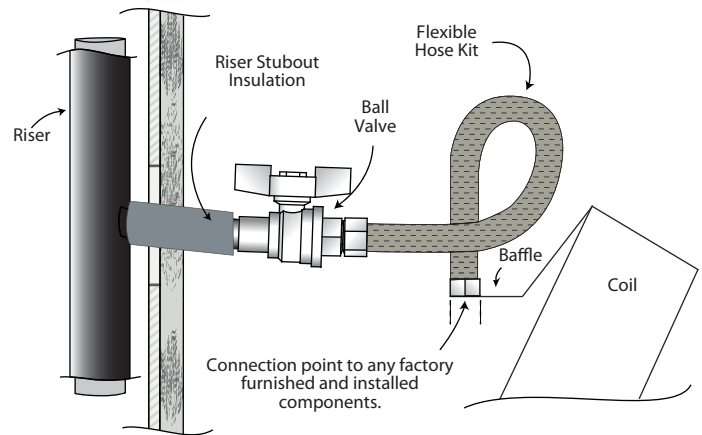

Figure 7
4. All Universal Modular units use reinforced braided stainless steel flexible hose kits for piping between field installed risers and unit water coils as shown in Figure 7. The hose kit design has threaded connections on each end. The hose kits allow for riser fluctuations due to thermal expansion.